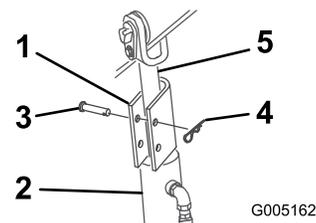

Figure 19
4. Position a loader arm cylinder lock over each lift cylinder rod (Figure 19).
5. Secure each loader arm cylinder lock with a clevis pin and coter pin (Figure 19).